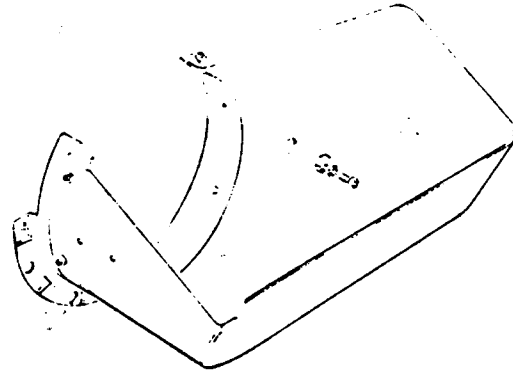

Figure 4-9
- 2) Rotate the eccentric with a  $7/16$ " open end wrench until there is an even, minimum clearance between the hopper bowl and the edge of the pinwheel. In most cases this is achieved when the bowl clearance hole is centered on the head of the lower right pinwheel bearing retaining screw. See Figure 4-9 & 4-10.